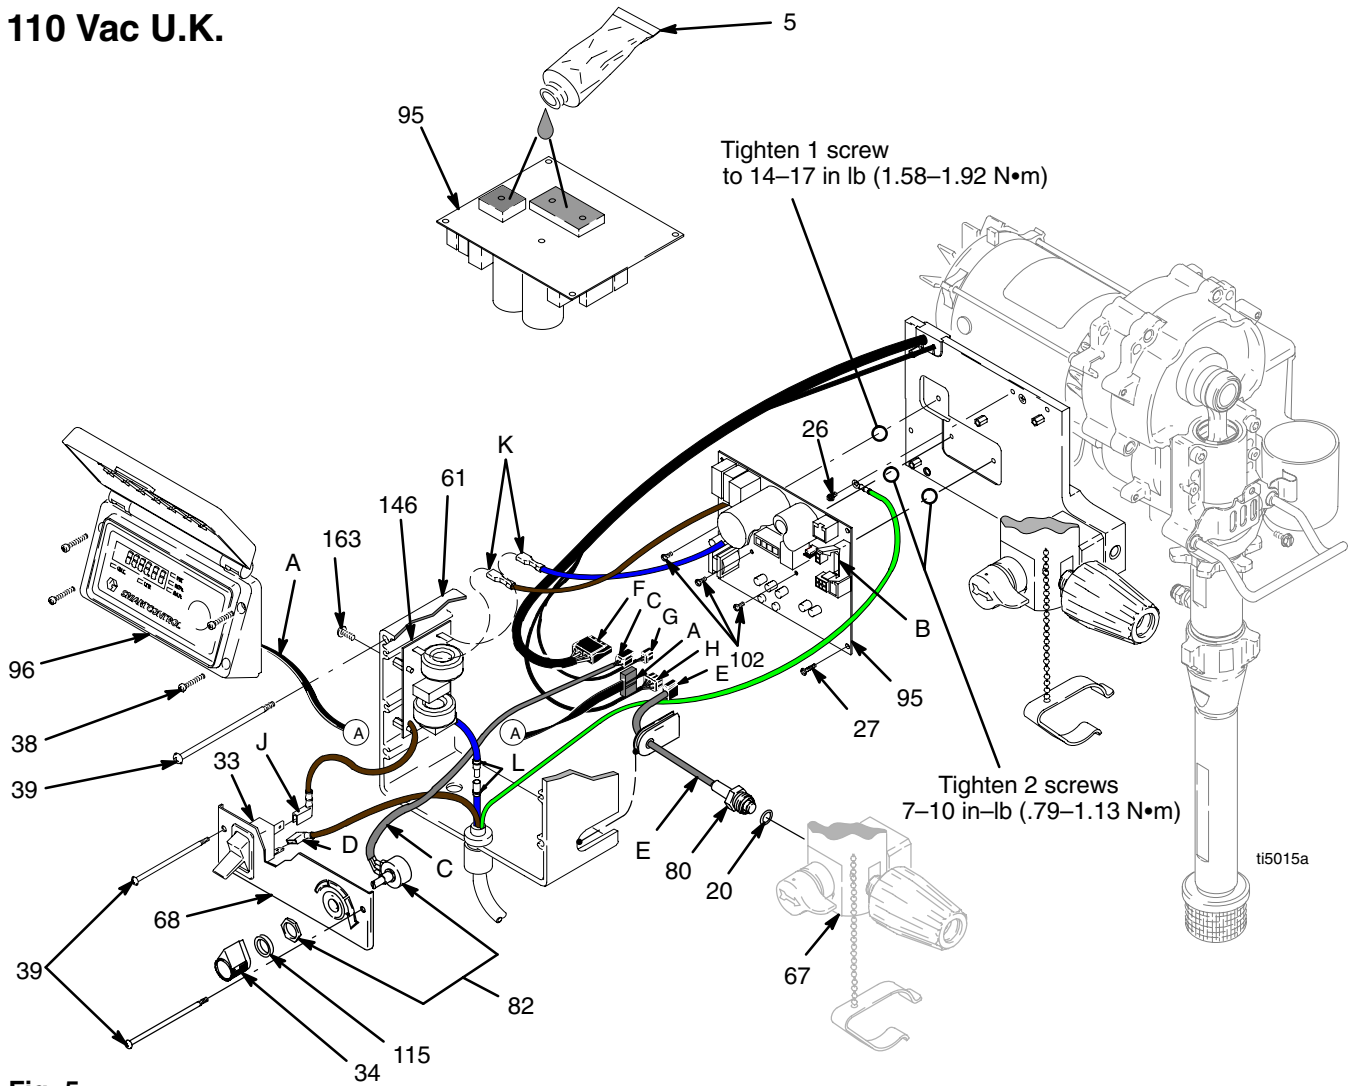

Fig. 5
- Install motor control board (95) with five screws (27). Torque to 9–11 in-lb (1.02 – 1.24 N·m). Install and torque three screws (102) to values shown in Fig 5.
- Connect transducer connector (E) to motor control board.
- Connect motor control board power connectors (K) to filter board (146).
- Install control box (61) with top two screws (39).
- Connect filter board power connectors (J) and power cord connectors (D) to ON/OFF switch (33).
- Connect potentiometer connector (C) to motor control board.
- Install control panel (68) with two screws (39).
- Connect display connector (A) to motor control board (95).
- Install cover (96) with four screws (38).
- Fig. 5. Remove four screws (38) and cover (96).
- Disconnect display connector (A) from motor control board (95).
- Remove bottom two screws (39). Disconnect potentiometer connector (C) from motor control board (95). Disconnect filter board connector (J) and power cord connector (D) from ON/OFF switch (33). Remove control panel (68).
- Disconnect motor control board power connectors (K) from filter board (146). Disconnect filter connector (L) from power cord connector (L).
- Remove top two screws (39) and control box (61).
- Disconnect transducer connector (E) from motor control board.
- Remove five screws (27), three screws (102) and motor control board.
- Fig. 5. Apply small amount of thermal compound 110009 (5) to shaded areas on rear of motor control board (95).
- Connect motor control board power connectors (K) to filter board (146). Connect filter connector (L) to power cord connector (L).
- Fig. 5. Connect filter board power connector (J) and power cord connector (D) to ON/OFF switch (33).
- Remove four screws (163) from filter board (146).
- Fig. 5. Connect motor control board power connectors (K) to filter board (146). Connect filter connector (L) to power cord connector (L).
- Install filter board (146) with four screws (163).
- Connect potentiometer connector (C) to motor control board (95).